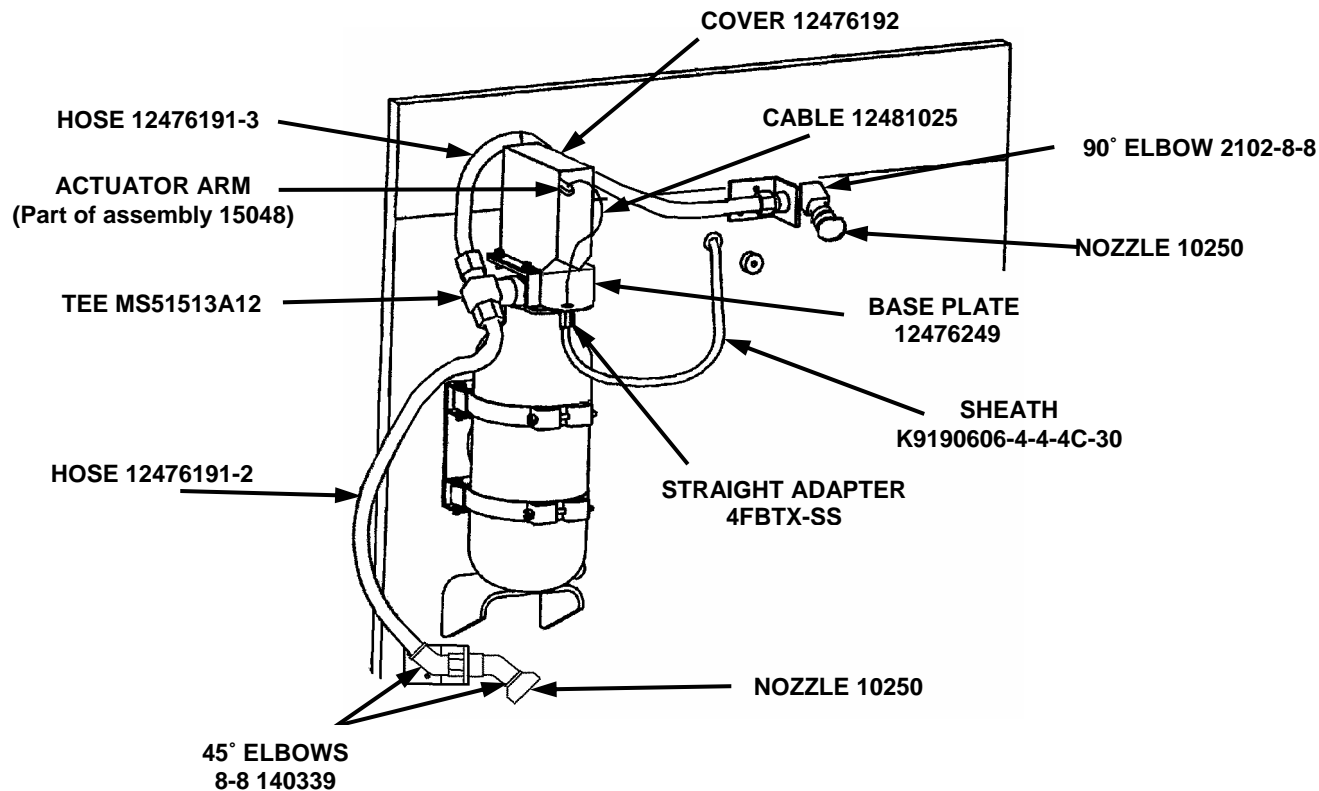

Figure 3-3. Left Side Installation
Steps g through h below apply to Figure 3-3 below.
- h. Refer to Figure 3-3 below to verify placement of hoses and elbows.
- b. Install dry powder fire extinguisher control valve and cable per TM 5-2350-262-20-1 and TM 5-2350-262-20-2. Use new straight adapter, actuator cover, actuator assemblies, base plate, cable, and sheath identified in Figures 3-3 and 3-5 above. Ensure actuator assemblies 15048 are replaced with new ones supplied.